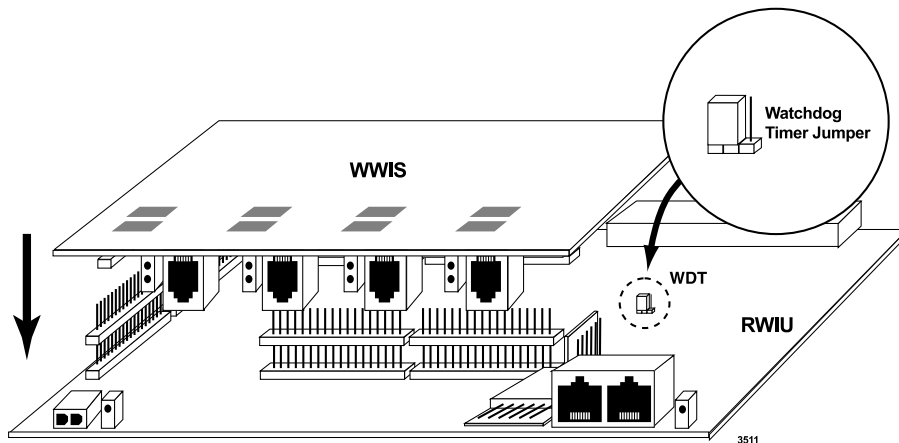

Figure 16-24 Alignment of the WWIS onto the RWIU
4. Verify that the Watch Dog Timer (WDT) is jumpered correctly as shown in Figure 16-24.
1. Carefully align the connectors of the WWIS (P9~P10 and P12~P17) to the terminals on the RWIU (J9~J10 and J12~J17) (shown in Figure 16-24).